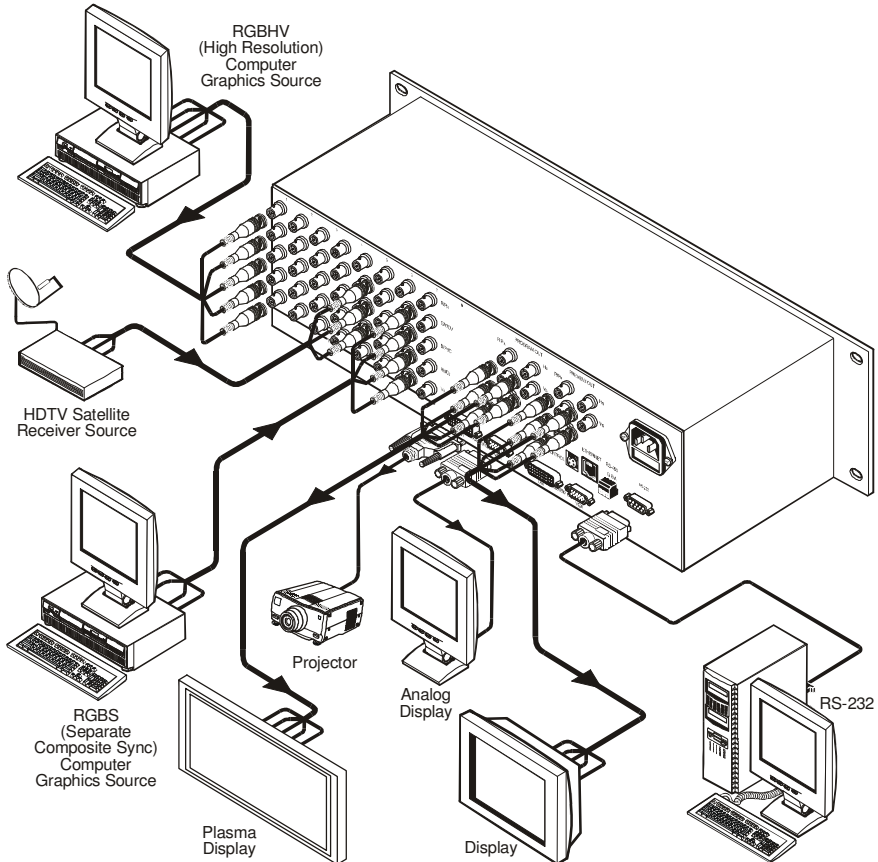
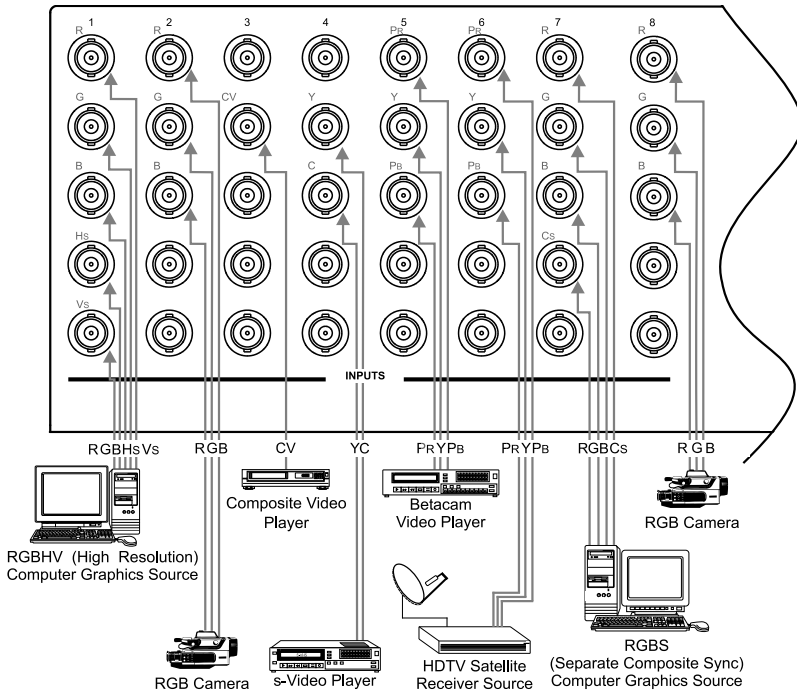
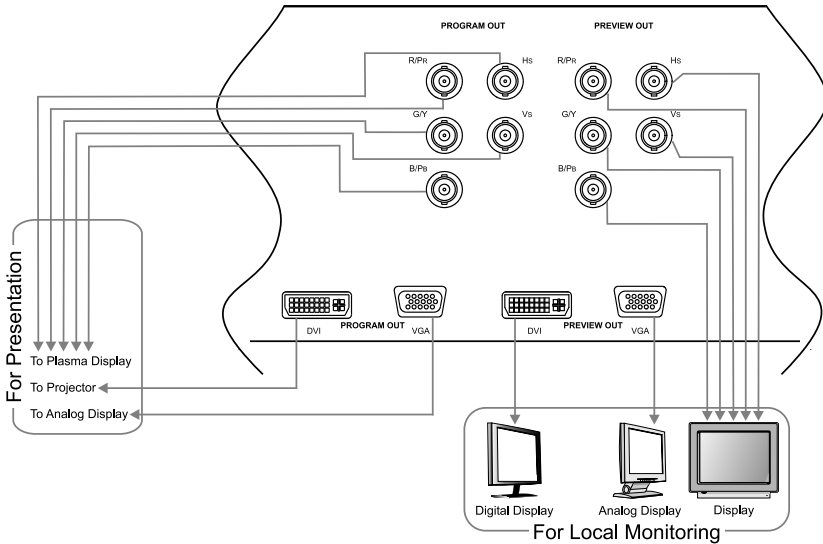

Figure 3: Connecting the VP-727
Figure 4: Connecting the INPUTS (an example)
Figure 5: Connecting the PREVIEW OUT / PROGRAM OUT Connectors
The **VP-727** is a **universal** presentation matrix switcher / scaler, letting you choose what sources to connect to the inputs. For example, you can connect just 3 sources: an RGBHV source, an HDTV source and an RGBS source (as the example in Figure 3 shows), or 8 sources: an RGBHV source, 2 RGB sources, a CV source, a Y/C source, a component video source, an HDTV source, and an RGBCs source (as the example in Figure 4 shows). Figure 3 shows an example of how to connect¹ the rear panel of the **VP-727**:
¹ Figure 4 and Figure 5 show how to connect several sources, and the PREVIEW/PROGRAM OUT connectors, respectively
1. Connect the following video sources¹ (see Figure 4):
2. Connect the PROGRAM OUT (see Figure 5):
3. Connect the PREVIEW OUT (see Figure 5):
The **VP-727** is a **universal** presentation matrix switcher / scaler: you choose what type of source to connect to each input. You can connect different video types or the same or similar video types. See the examples in Figure 3 and Figure 4 in section 6.